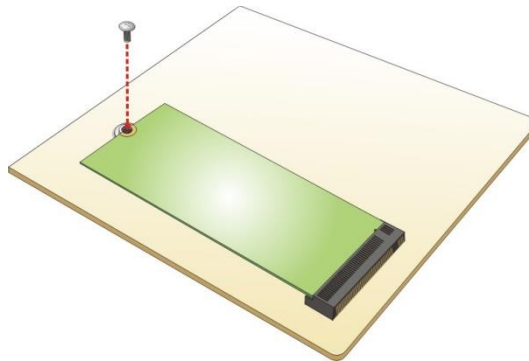

Figure 3-9: Securing the M.2 Module
Step 5: Secure the M.2 module with the previously removed retention screw (**Figure 3-9**).